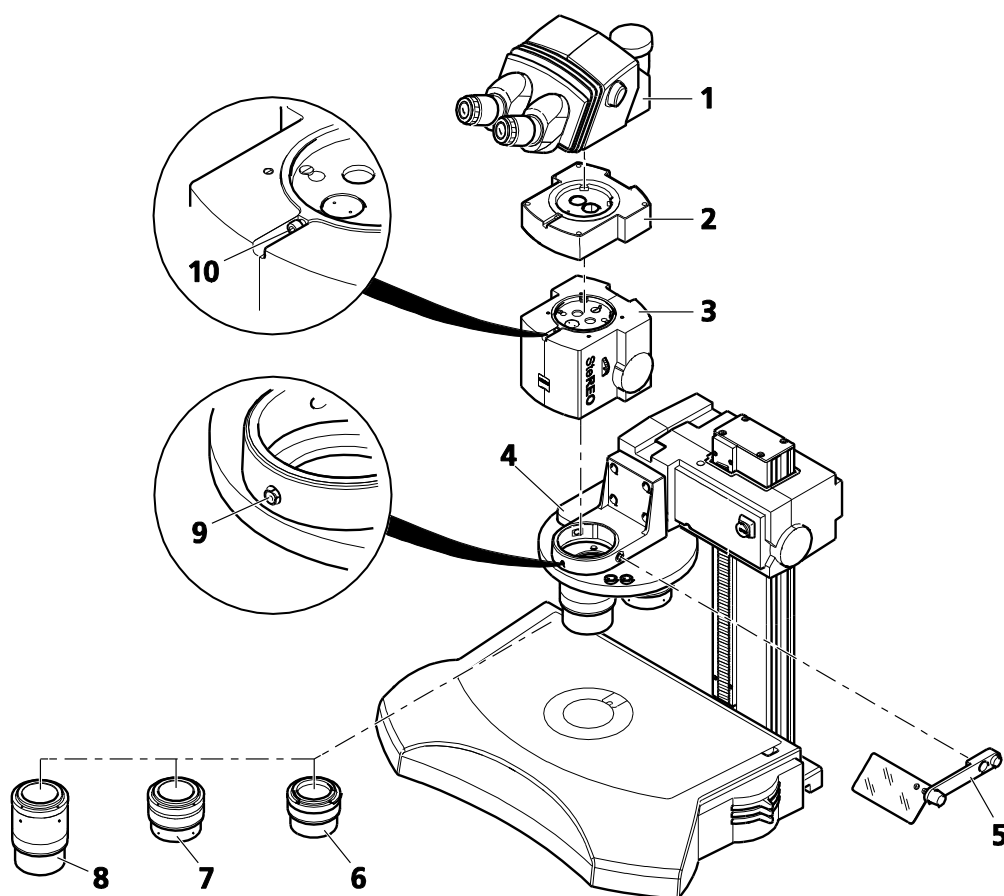

Fig. 9 Installing the microscope
- Verify that the grub screw (SW 3) on the carrier or objective nosepiece (Fig. 9/9) does not project into the opening of the holder. Turn it counterclockwise by a few turns, if necessary, using the ball-headed screwdriver (but do not fully unscrew it!).
- Put the microscope body (Fig. 9/3) into the mount (\varnothing 76 mm) of the carrier or objective nosepiece (Fig. 9/4) and align it.
- Fasten the grub screw (Fig. 9/9) on the carrier or objective nosepiece hand-tight.
Order of installation: At first, install the shortest objective (Fig. 9/6), then the medium one (Fig. 9/7) and finally the longest one (Fig. 9/8). To remove the objectives, proceed reversely.
- Take up the objective (Fig. 9/6) with both hands and screw it counterclockwise into the microscope body or objective nosepiece (upside down right-hand thread).
- Insert binocular tube (Fig. 9/1) in dovetail mount and clamp it by screwing down the Allen screw (Fig. 9/10) hand-tight using the ball-headed screwdriver.
You can use up to two 40 mm high intermediate tubes (Fig. 9/2) to increase the viewing height by a maximum of 80 mm. Clamp them in the same way as the binocular tube.
To avoid being dazzled in transmitted light, fix the dazzle protector (Fig. 9/5) to the carrier or the objective nosepiece (Fig. 9/4) and swing it in.